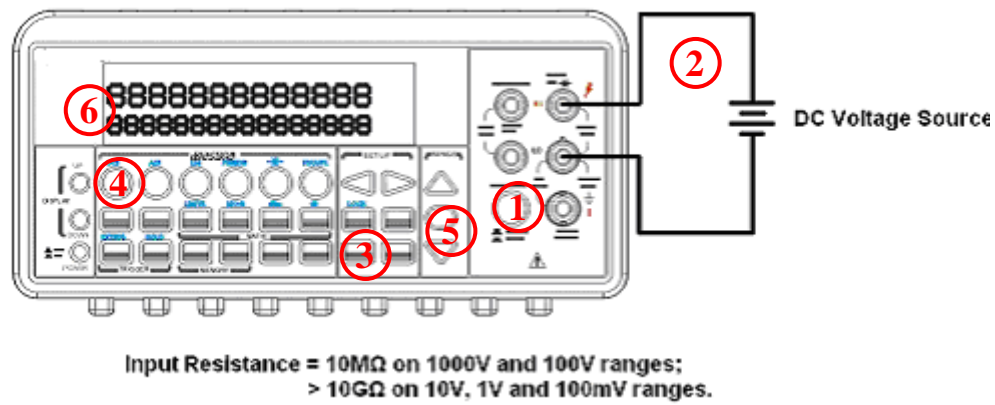
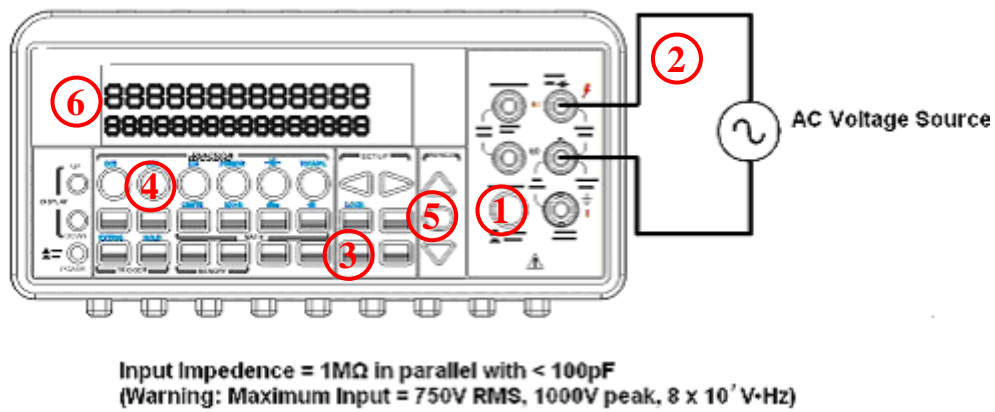
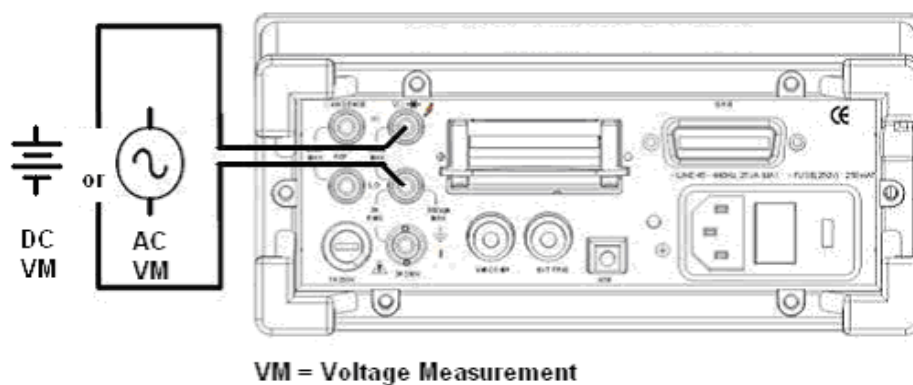

Figure 3-1
Figure 3-2
Figure 3-3
The ranges for DC voltage measurements in DL-2060 are 100mV, 1V, 10V, 100V and 1000V. For AC voltage measurements, the ranges are 100mV to 750V AC-Coupled TRMS, or 1000V peak. **Figures 3-1** and **3-2** shows the locations of the buttons needed and message display for voltage measurement. **Figure 3-3** shows the location of the input terminals on the rear panel.
- ① Selects input signal connections on front or rear panel.
- ② Connect the test leads to the terminals as shown in **Figure 3-1**(DC) or **Figure 3-2** (AC).
- ③ Set RESOLUTION of DCV (Refer to 3.1.3), BAND WIDTH of ACV (Refer to 3.1.2.1) or skip this step if default is to be used.
- ④ Press DCV or ACV button for DC or AC voltage measuring.
- ⑤ Select the auto-range function by pressing AUTO button on the front panel or use ☐ buttons to select desired range.
- ⑥ Connect test leads to your source signal and observe the reading shown on the display. If the input signal is beyond the allowed range, an overflow message "OVLD" will be displayed.
※ Note: The rear panel terminals can also be used via the same procedures as the front panel terminals. (Refer to Figure 3.3)
- ② Connect the test leads to the terminals as shown in **Figure 3-2**.
- ③ Set RESOLUTION (Refer to 3.1.1) and INPUT JACK. Or skip this step if default is to be used.
- ④ Press FREQ button for frequency measurement or SHIFT + PERIOD(FREQ) buttons for period measurement.
- ⑤ Select the auto-range function by pressing AUTO button on the front panel or use \triangle and ∇ buttons to select the desired range.
※ **Note:** The rear terminal panel can also be used via the same procedures as the front panel. (Please refer to **Figure 3-3**)
- ① Connect the test leads to the terminals as shown in **Figure 3-2**.
- ② Set REConnect the input signal as the following figure.
- ③ Set threshold resistance via pressing CONFIG + CONT buttons. (Or skip this step if default resistance is to be used) When ready, press ENTER button.
- ④ Press CONT button.
- ⑤ The measured value will be shown on the display automatically. Meter “beeps” when measured resistance value is lower than threshold value.